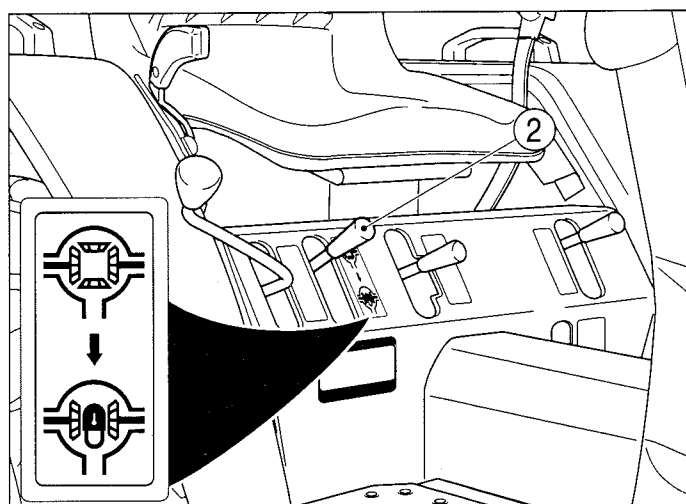

FIG. 43
FIG. 43: When the differential lock lever (2) is down, both rear axles are locked together to provide equal traction to both rear wheels. This is especially important when operating in loose soil or slippery conditions.